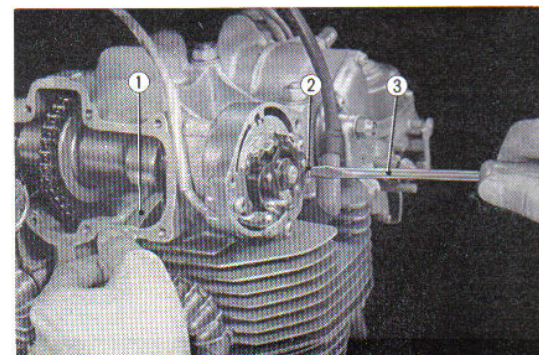

Fig. 6.4 Adjusting tappet clearance
5. Adjust the left hand cylinder tappet clearance. The standard clearance between the cam and the cam follower for both the intake and exhaust valves is 0.03 mm (0.0012 in). Perform the adjustment by loosening the cam follower shaft lock nut and turn the cam follower shaft with a screw driver as shown in figure. The adjustment can be made between the range of 180°. (Fig. 6.4, 6.5)